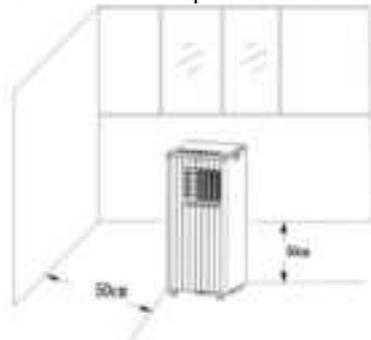
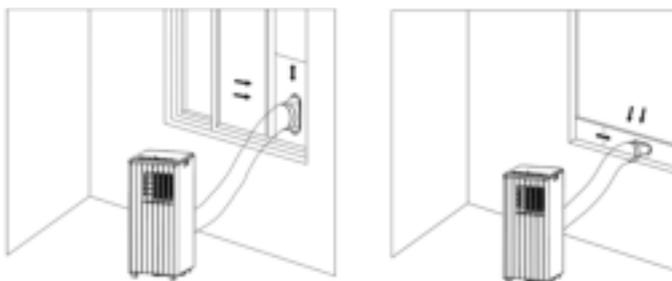

Fig. 3
Fig. 4
2.1. Open the window halfway and install the assembled sealing plate on the window (as shown in fig. 3 and fig. 4). Components can be placed in horizontal and vertical directions.